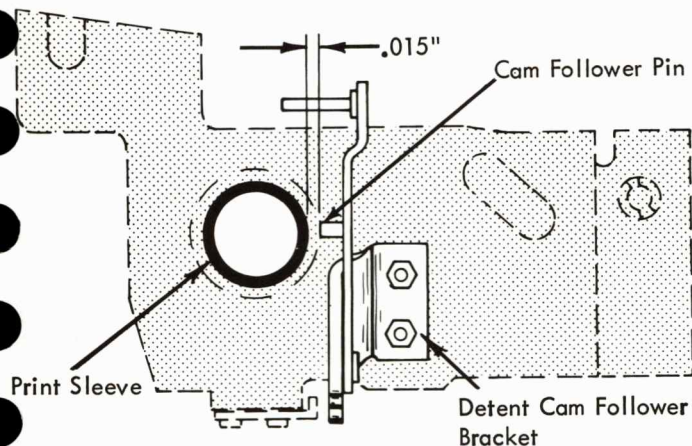

FIGURE 54A. Detent Cam Follower Bracket
- a. Front to rear for a clearance of .015" between the print sleeve and the end of the pin on the cam follower (Fig. 54A).